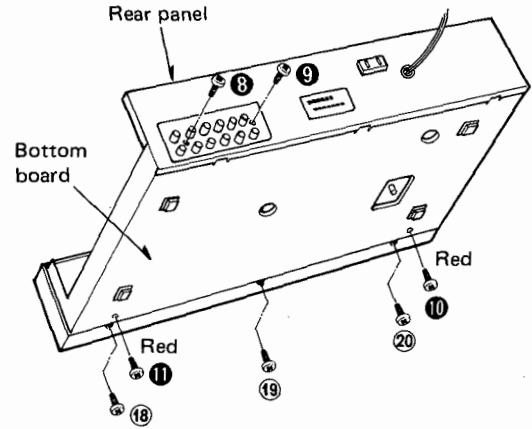
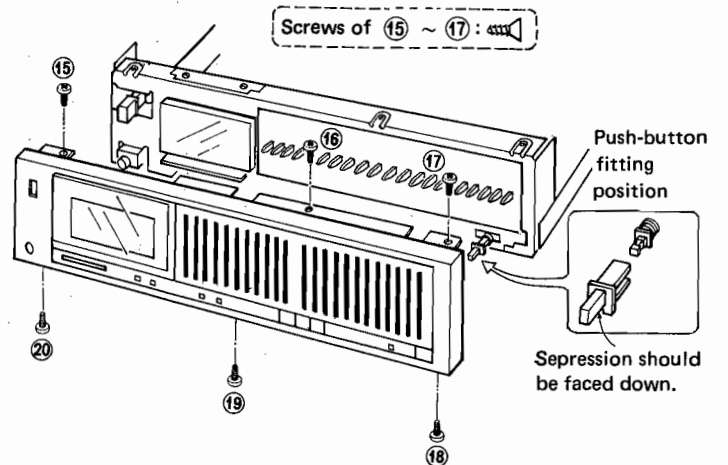

Fig. 2
Fig. 8
2. Remove the screws (Fig. 2: ⑧ ~ ⑪) of the rear panel and the bottom board.
2. Remove screws 15 ~ 20 as in Fig. 8. (For screws 18 ~ 20, See Fig. 2.)
1. Remove the front panel. (See Fig. 8.)